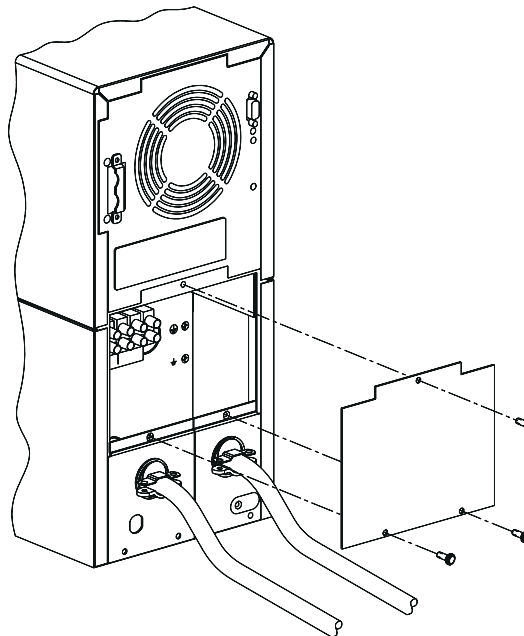

Figure 5-7 *Installation of Access Panel (100V and 120V Tower)*
1. Slide the access panel (Figure 3-1, item #3) into position as shown in Figure 5-7. Make sure printed side is facing out.